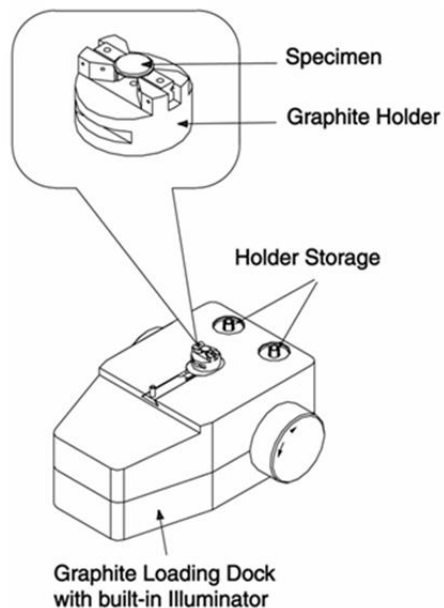

Figure 4-17 Graphite holder loading dock
1. Completely retract the loading dock tray (Figure 4-17).